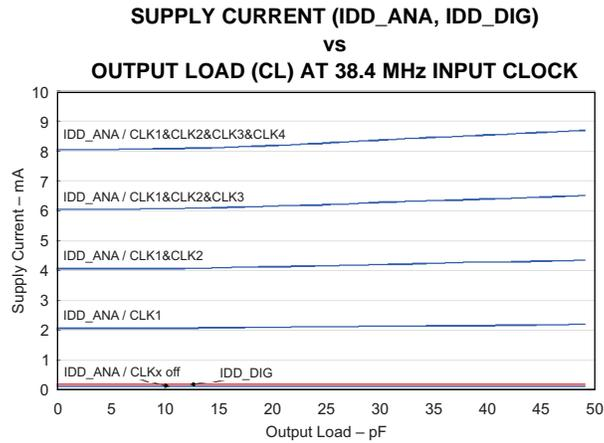

Figure 8.
(1) The total current consumption when no output is active is calculated by $I_{DD_ANA}(\text{off}) + I_{DD_DIG}$.
(2) For $C_I = 30\text{ pF}$, the typical current for one output is 2.2 mA (see Figure 8).
(3) The I²C standard specifies a maximum C_I of 10 pF.